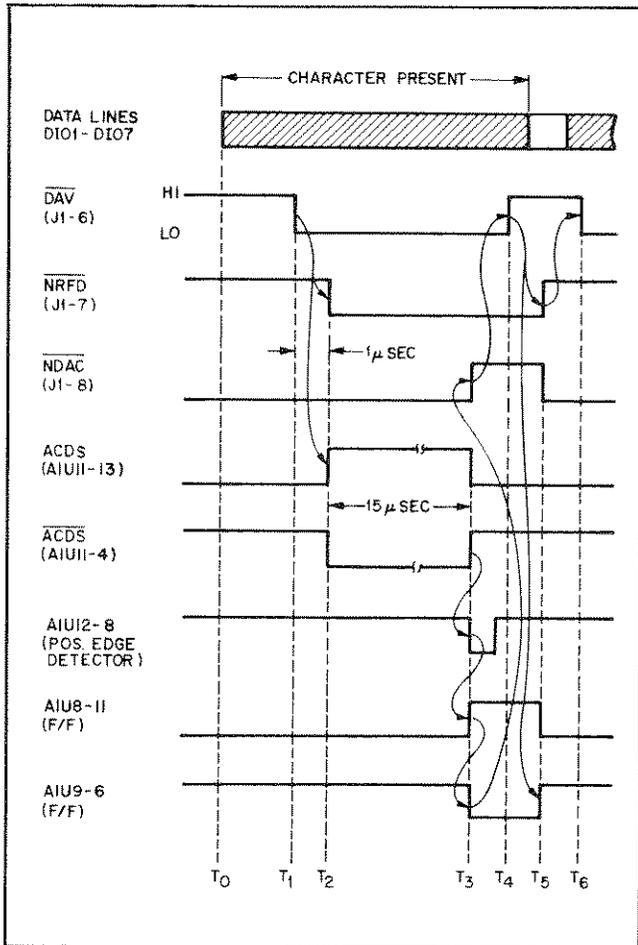

Figure 4-2. Acceptor Handshake Signals, Timing Diagram
data character received on the bus data lines  $\overline{\text{DI01}}-\overline{\text{DI07}}$ . Unrecognized command characters (e. g., talk address) will be ignored but the handshake cycle between the controller and the 59501A will occur anyway. The 3-wire handshake lines are designated  $\overline{\text{DAV}}$  (data valid),  $\overline{\text{NRFD}}$  (not ready for data), and  $\overline{\text{NDAC}}$  (data not accepted). The acceptor handshake circuit is enabled when the bus is in the command mode ( $\overline{\text{ATN}}$  is LO) or if the 59501A is in the listen mode (listen flip-flop set) and  $\overline{\text{ATN}}$  is HI (data mode). For either of the above conditions, the output of NAND gate U8-3 goes HI and NAND gate U5-6 goes LO enabling the acceptor handshake circuits. Figure 4-2 illustrates the 3-wire handshake cycle timing sequence for each character received by the 59501A in the command and data modes.
**5-14 Acceptor Handshake Troubleshooting.** Figure 5-4 provides a static check of the acceptor handshake circuit. However, it is possible to have a condition where a faulty circuit would not be detected by performing these checks. If a timing problem is suspected, the acceptor handshake circuit must be checked dynamically. A dynamic test can be made by continuously programming the 59501A to "listen" and observing the handshake signals on an oscilloscope. The handshake cycle timing relationships are shown in Figure 4-2.